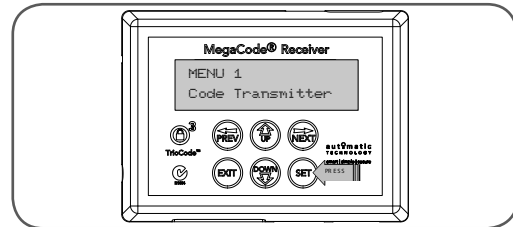

fig 10
2. Press SET to enter the transmitter edit procedure (Fig. 10).